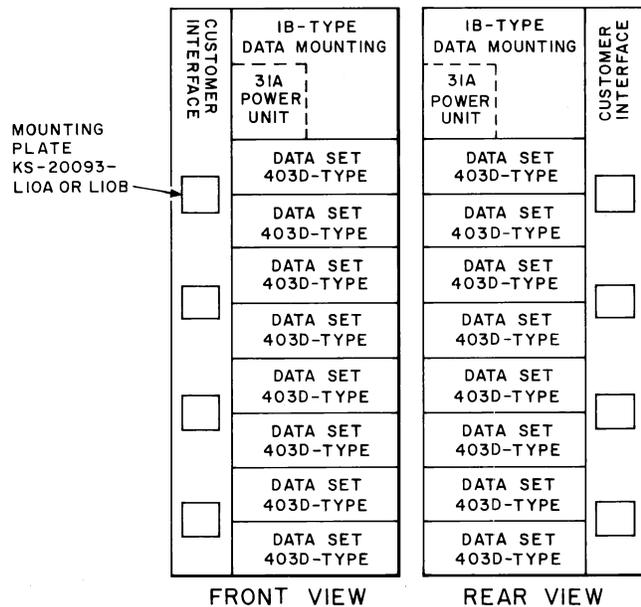

Fig. 2—Component Location in KS-20093-L1 Cabinet
1.09 A KS-20093-L1 Cabinet is used to house the multiple data set station. A fully equipped cabinet (maximum of 16 data sets) is illustrated in Fig. 2. When the cabinet is to be only partially filled, the data mounting, data sets, and associated equipment should be mounted to equally distribute the weight and add rigidity to the cabinet. This will require installing some of the equipment on the rear and some on the front mountings.
4.06 Position the 1B3 Data Mounting within the cabinet as shown in Fig. 2. Leave about 1 inch of space above the data mounting for cable clearance.